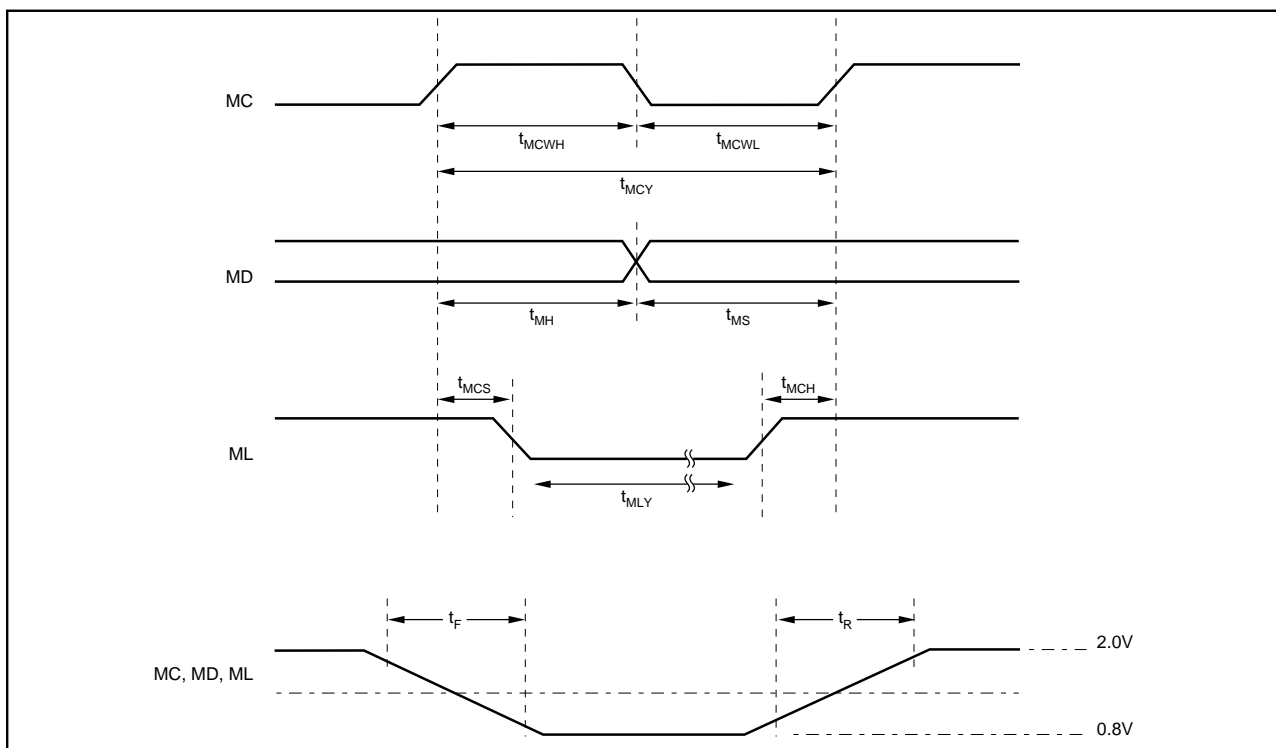

FIGURE 5. Serial Mode Control Timing.
TABLE II. Serial Mode Control Timing Specifications (Refer to Figure 5).
**CAUTION:** Mode control signals operate on level triggered logic. The minimum timing conditions detailed in Figures 5 and 6 MUST be observed.